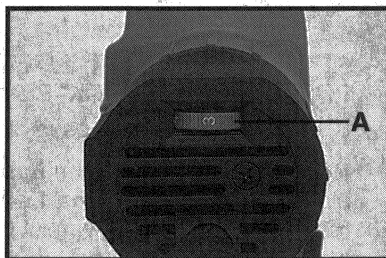

Fig. 7
The 7549 and 7649 are equipped with an adjustable variable speed control. The speed is adjusted by turning the control knob (A), Fig. 7.
The control knob (A), Fig. 7, is numbered "1" through "6" with "1" being the slowest speed (approximately 500 SPM) and "6" being the fastest speed (approximately 3200 SPM). The speed control may be adjusted with or without the motor running.